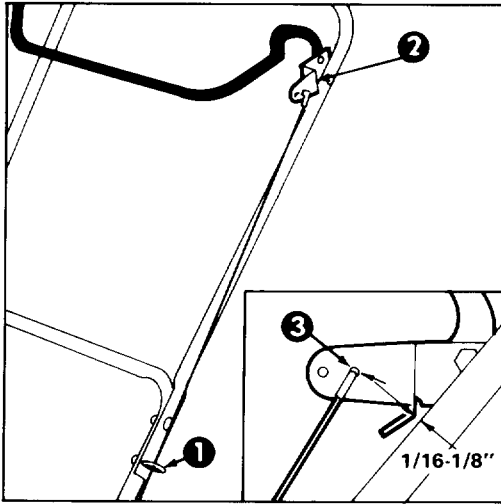

Figure 9
## ADJUSTING CONTROL BAR (Fig. 9&10)
2. CHECK ADJUSTMENT-(Fig. 9) – Move control bar back toward handle until slack in cable is removed. Gap between control bar bracket and handle should be approximately 1/16-1/8". If cable is too loose or too tight proceed to step 3 for adjustment procedure.